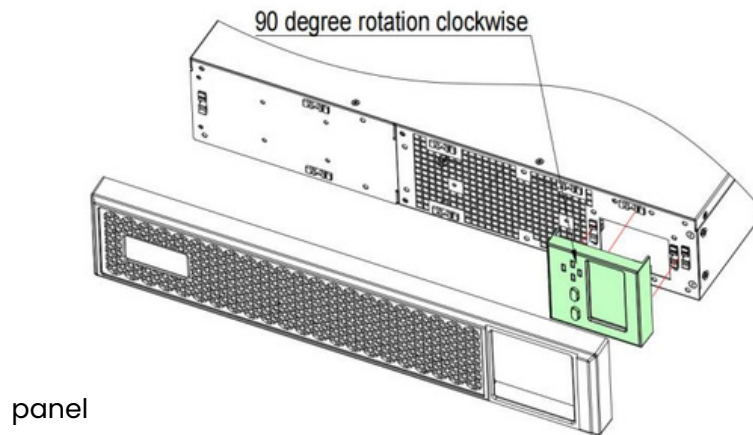

Fig.5-3 Rotating the operation and display
2. Pull the operation and display panel gently, rotate it 90 degrees clockwise and snap it back into position, as shown in Fig.5-3